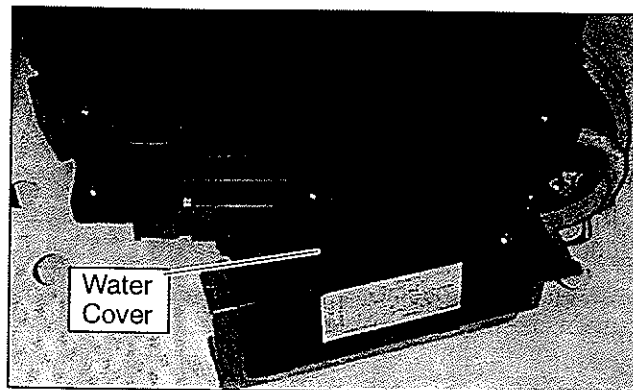

Figure 3-16 Control Box Removal
- c. Slide control box out of the lower scroll assembly. (See Figure 3-16.)